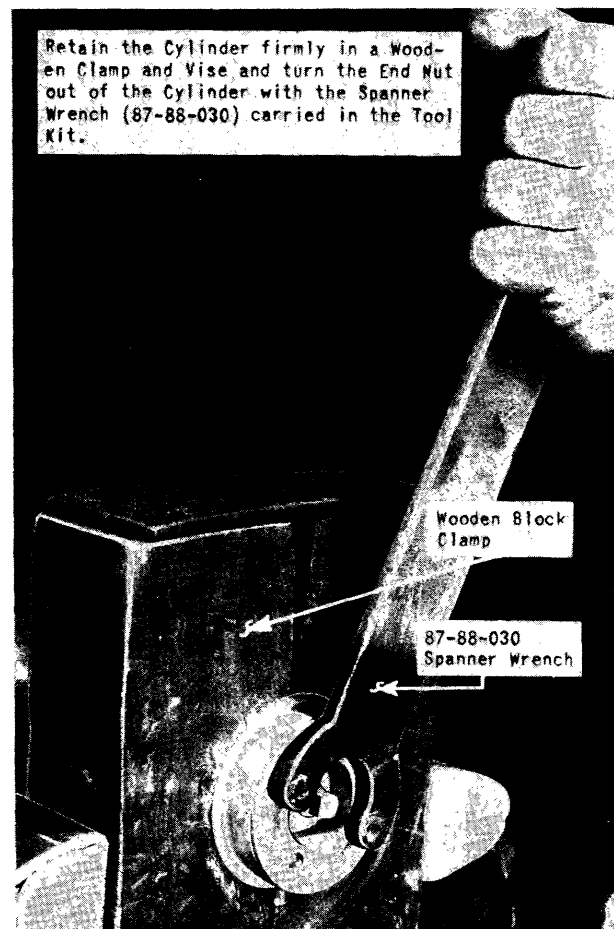

Figure 189 - Removing End Nut from Cylinder
(3) Unscrew the end nut with the spanner wrench (87-88-030) carried in the tool compartment on the duffle bag. (See figure 189.)
(4) Remove the piston assembly from the cylinder through the uncapped end.
(5) The rubber cups may now be removed from the end nut and the piston and the actuating strut is disassembled.
(3) Coat the cup on the end nut with hydraulic fluid (Lockheed No. 5) and screw the nut into the cylinder. With the cylinder held firmly in a wooden clamp tighten the end nut with the spanner wrench (87-88-030). (See figure 189.)
(4) Slip the end onto the piston shaft, line up the bolt holes on the end and piston shaft and insert the attaching bolts. Install the washers and nuts and tighten the nuts. Install cotters and the cylinder is reassembled.